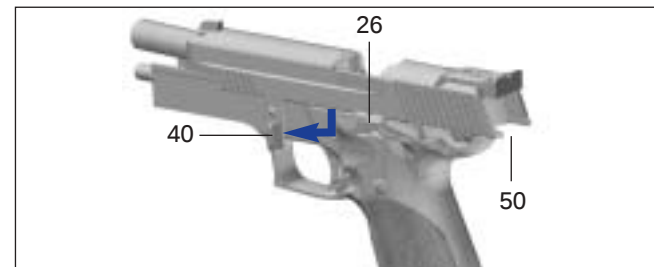

Fig. 8
- Thumb down takedown lever 40 (Fig. 8).